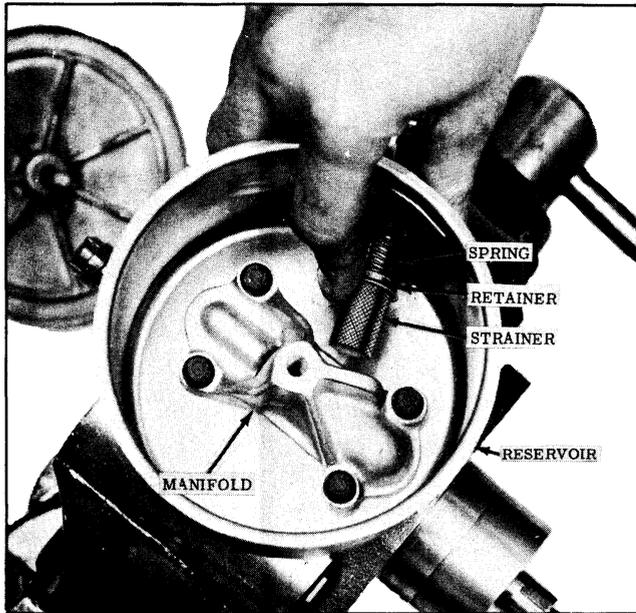

Fig. 5-86 Installing Strainer
19. Install spring, retainer, and strainer as shown in Fig. 5-86. Be sure strainer seats into the manifold and the retainer.